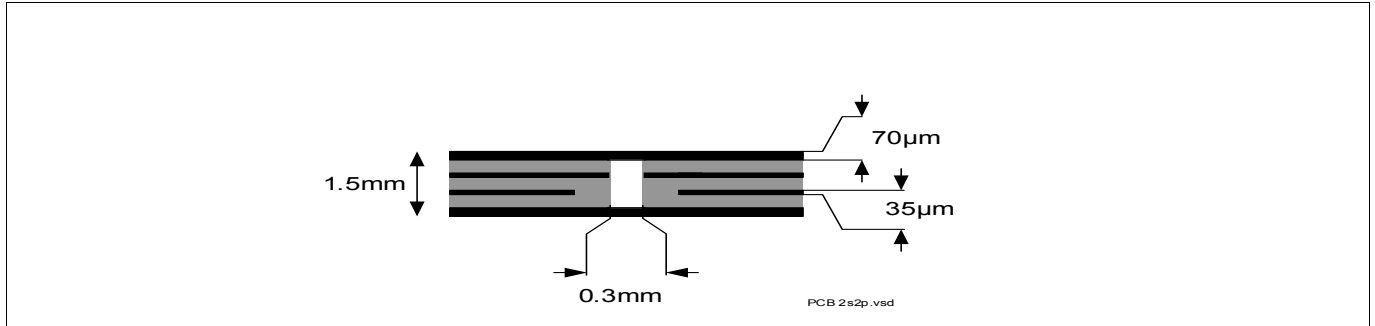

Figure 4 2s2p PCB Cross Section
2) Specified  $R_{thja}$  value is according to JEDEC JESD51-2,-5,-7 at natural convection on FR4 2s2p board; The product (chip + package) was simulated on a 76.4 x 114.3 x 1.5 mm board with 2 inner copper layers (2 x 70 μm Cu, 2 x 35 μm Cu). Where applicable, a thermal via array under the exposed pad contacts the first inner copper layer. Please refer to Figure 4.